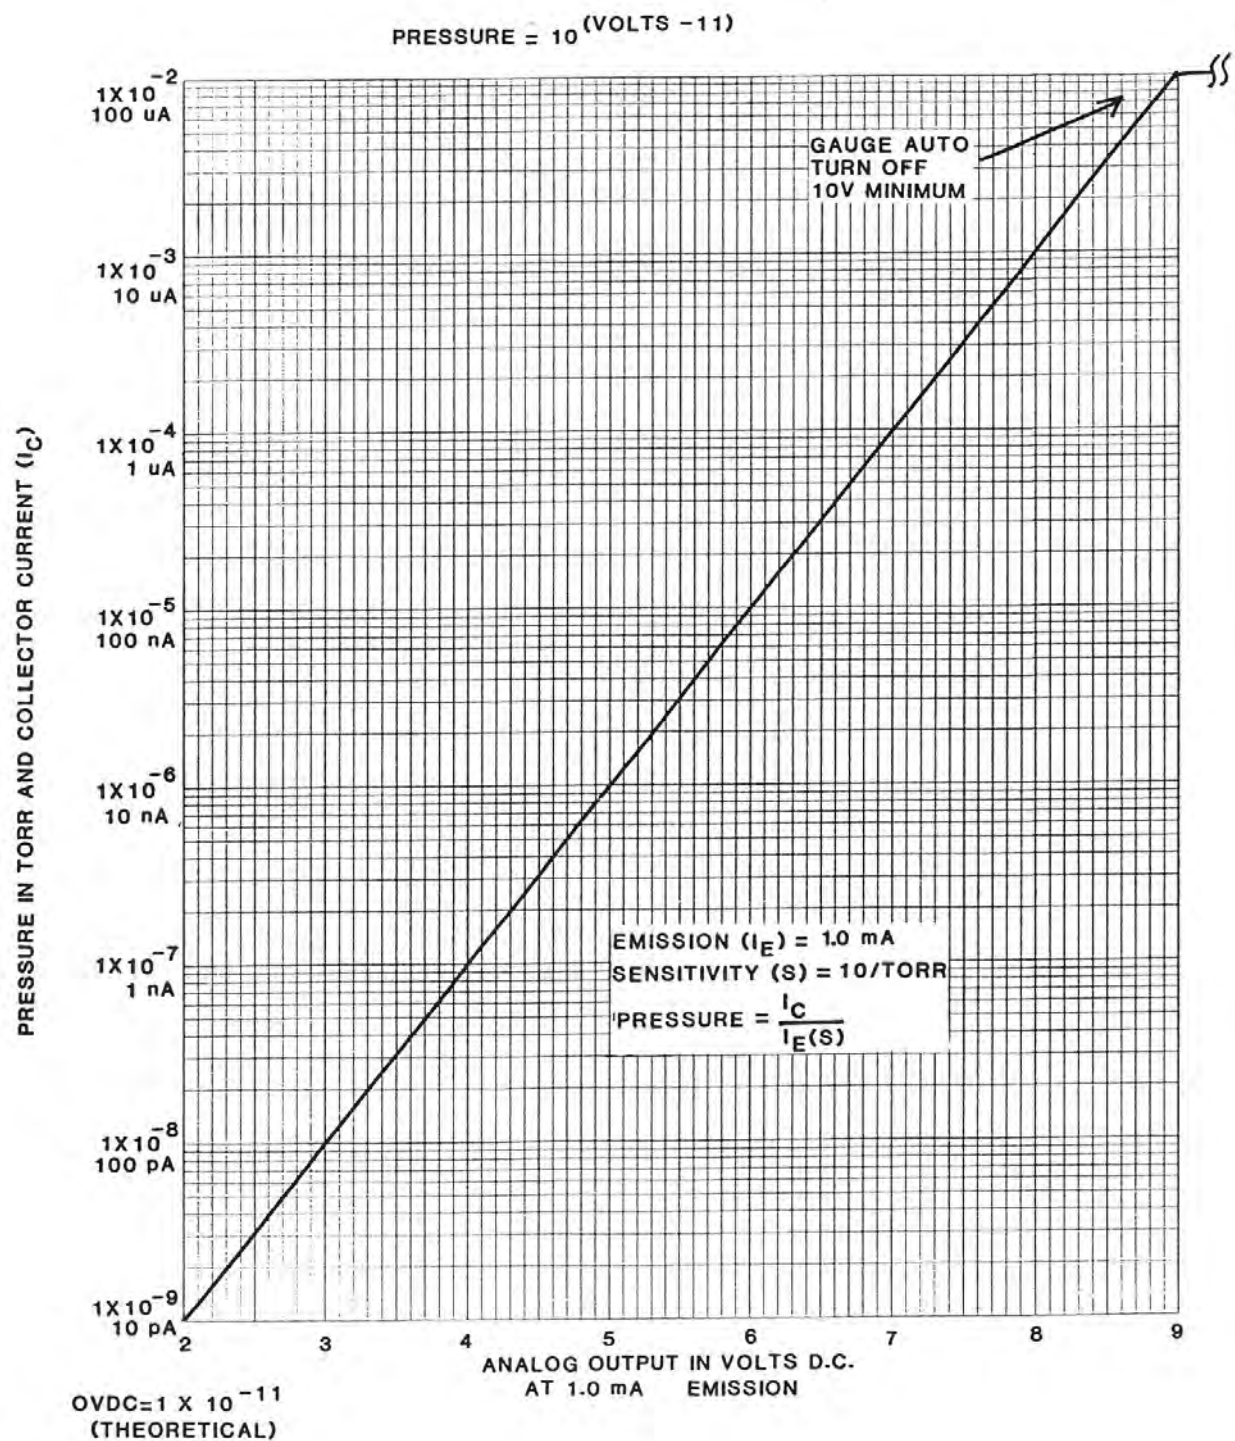

Figure 1-5 Analog Output in Vdc at 1.0 mA Emission
4. If the voltage change in Step 3 is greater than 17%, due to the placement of the shunt, it complicates the measurement. The commonality of the grounds may be satisfactory and the coupling poor, or the commonality could be poor! Your electrician should be asked to check the electrical continuity between these two ground systems. The placement of a second ground wire, (dashed line in Figure 1.5), between the vacuum chamber and the VGC chassis is not a safe answer for large currents could flow through it. Professional help is recommended.
This signal is proportional to the logarithm of the pressure with 0 volts at 1×10^{-11} Torr at 1 mA emission or 1×10^{-12} Torr at 10 mA emission. When the ion gauge is turned OFF, the output will switch to slightly over +10 Vdc. See Figures 1-5 and 1-6.